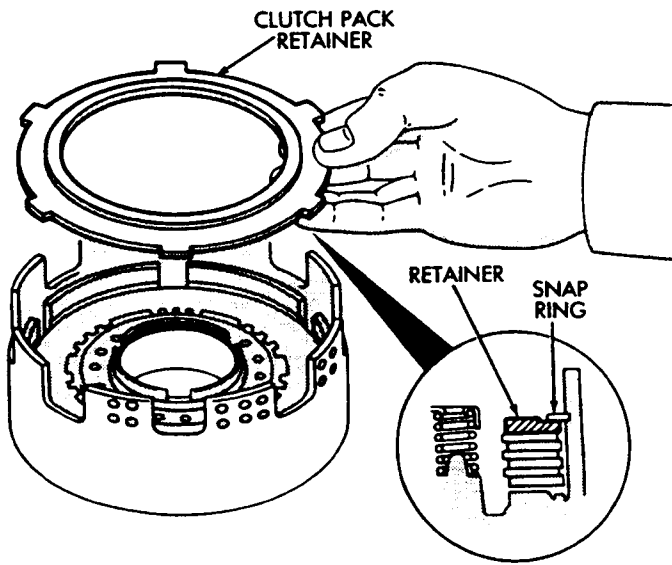

Fig. 12 Install Clutch Pack Retainer
(5) Install clutch pack retainer in drum (Fig. 12).
(6) Install clutch pack snap ring (Fig. 12).
(7) Check snap ring position. If necessary, shift snap ring until end gap is **not** aligned with any notches in clutch drum (Fig. 12).
(8) Check clutch piston stroke length a second time. If length is OK, continue with assembly. If stroke length is incorrect, replace clutch discs or use different thickness clutch pack retainer (Fig. 12). See Specifications section for retainer thicknesses.